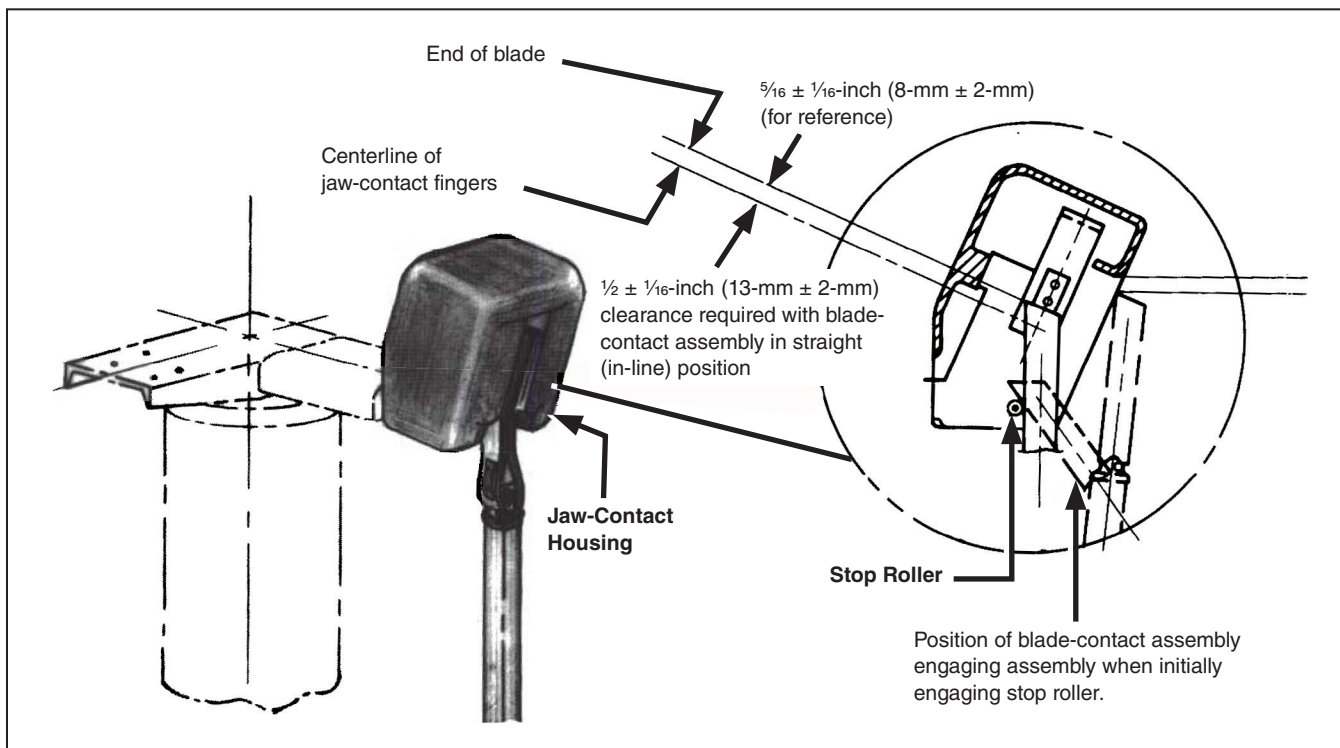

Figure 4. Jaw-contact detail.
- (b) Raise or lower the blade assembly in the blade clamp so, with the blade-contact assembly held in the straight (in-line) position, it enters the jaw-contact with a 1/2-inch (13-mm) clearance between the end of the blade-contact assembly and the upper lip of the jaw contact housing. See Figure 4 on page 10. Securely tighten the blade clamp bolts but do not tighten the piercing set screws at this time.